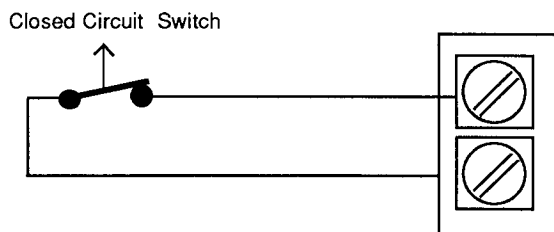

FIGURE 7. NON-SUPERVISED CLOSED CIRCUIT LOOP
- Connect all alarm sensors to the zone wiring as per the instructions provided by the individual sensor manufacturer and figures 7 and 8 in this manual.